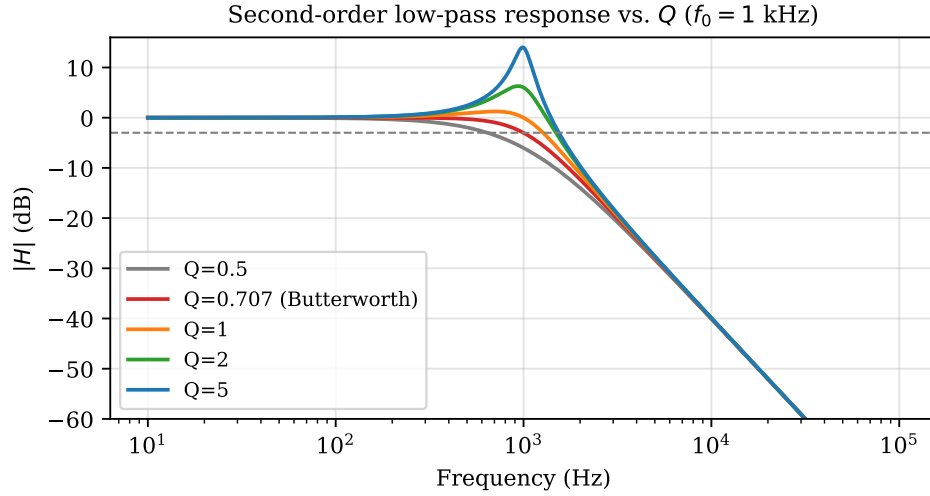

Figure 9: Effect of Q on a second-order low-pass. Butterworth ($Q = 0.7071$) is the boundary between droop and peaking.
• **Consistency check with Table 1:** the $n = 2$ entry has $C_1 = 1.414 = \sqrt{2}$ and $C_2 = 0.7071 = 1/\sqrt{2}$. Then $\omega_0 = 1/\sqrt{\sqrt{2} \cdot 1/\sqrt{2}} = 1 \text{ rad/s}$ ✓ and $Q = \frac{1}{2}\sqrt{\sqrt{2}/(1/\sqrt{2})} = \frac{1}{2}\sqrt{2} = 0.7071$ — precisely the Butterworth Q . The table is just Eq. (10) solved for the classical pole positions. Figure 9 shows why Q matters: $Q < 0.707$ droops early; $Q > 0.707$ peaks before rolling off; $Q = 0.707$ is the flattest possible — Butterworth.